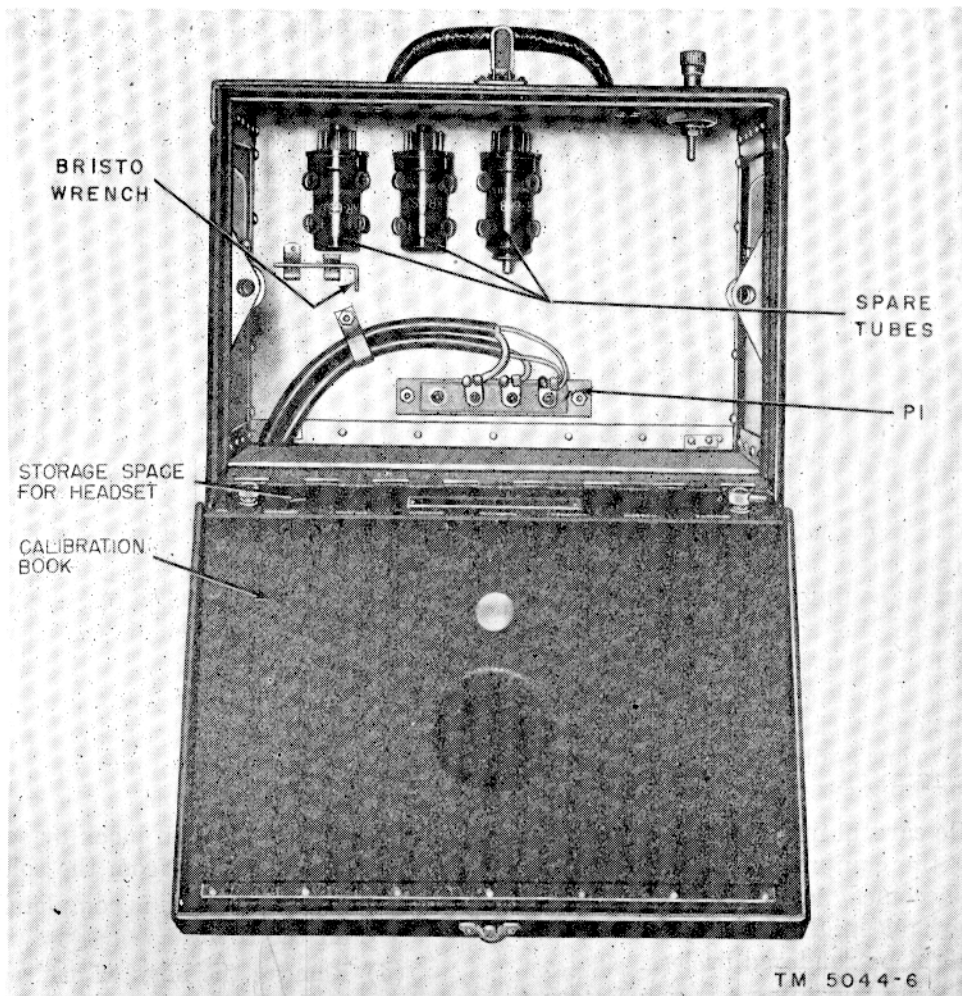

Figure 5. Frequency Meter TS-174B/U, chassis removed to show spare parts.
c. A four-contact plug (PI in fig. 5) in the rear of the cabinet mates with receptacles in the rear of the chassis when the chassis is placed in the cabinet. At the same time, a clip on the upper right side of the chassis engages the antenna stud mounted in the top of the cabinet.
Running spares supplied with each frequency meter are stored on the back of the cabinet (fig. 5). Spares are reached by removing the chassis, as described in paragraph 7b. The following is a list of running spares.